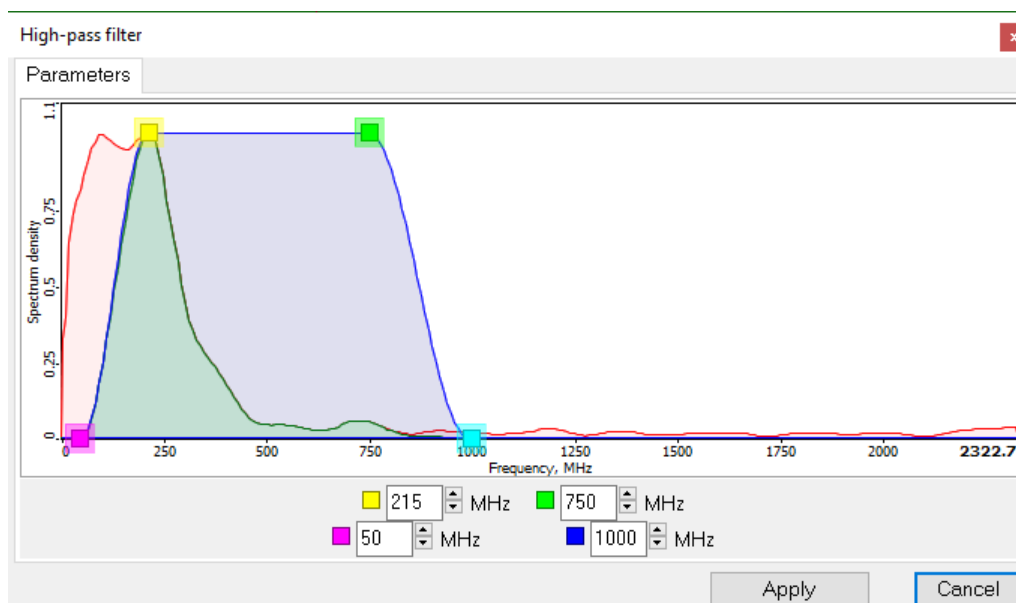

Fig. 11.3. Frequency filter dialog box.
**Hyperbola** – Local object's depth and medium's permittivity determination. When a profile intersects diffractive targets, such as pipes, cables, stones, archeological objects, areas of drastic soil properties variation, their signals on the radiolocation profiles have hyperbola shape; signal examples are shown in Figs. 4.2, 4.3, 10.3. When **Hyperbola** option tool is selected, pressing on the profile will draw hyperbolic line that goes from a theoretical local target in a theoretically homogeneous medium, and open an information window with this target and medium parameters. Your task is to match the theoretical hyperbola with the signal's hyperbola on the profile. First, align the vertices of the hyperbolas; for this purpose, bring the cursor to the signal's hyperbola vertex, and press the left mouse button. The hyperbola slope may be changed by pressing right mouse button: position the cursor on the signal's hyperbola branch, and press the right mouse button. For more accurate hyperbolas matching we recommend to use  **Zoom in** on the Main menu (see below) and make several iterations. Matching hyperbolas example is shown in Fig. 11.3.